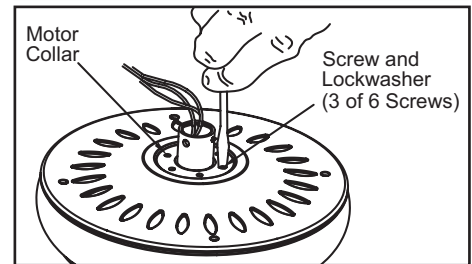

Figure 10
- Remove three of the six screws and lock-washers (every other one) securing the motor collar to the top of the fan motor housing (Figure 10).